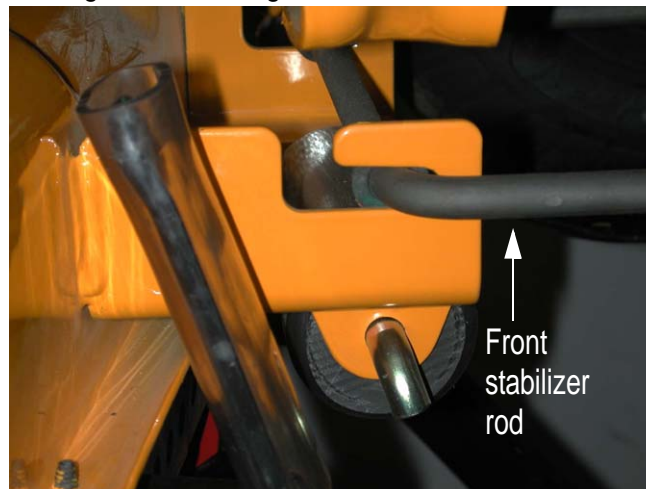

Figure 10.7
- 10.7. Slide the deck forward and release the front stabilizer rod. DO NOT DROP the deck to the ground. See Figure 10.7.